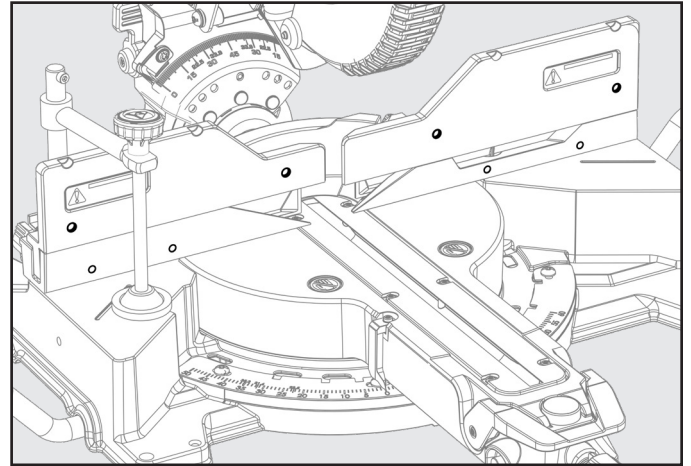

Figure 36
See Figure 36.
1. Place auxiliary fence wood against miter saw fence. See Figure 36. The maximum height for this wood **MUST NOT** exceed 5.5 inch. Check to make sure auxiliary fence does make contact with saw head, check with saw head in the full DOWN and fully RETRACTED position.